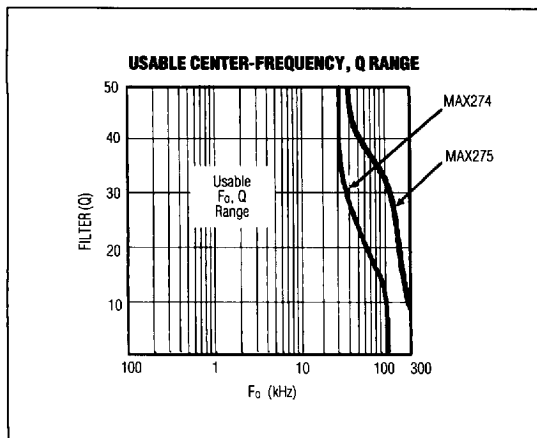

Figure 4. Usable F_o , Q Range. See *Translating F_o/Q Pairs into Hardware (Resistor Selection)*.
1. Check all F_o/Q pairs for realizability. The MAX274/MAX275 have limits on which F_o/Q values can be implemented. These limits are bound by finite amplifier gain-bandwidth and amplifier load drive capability (which limit the highest frequency F_o /highest Q s) as well as amplifier noise pickup and susceptibility to errors caused by stray capacitance (which sets a low-frequency limit on the poles). Refer to Figure 4 to be sure each F_o/Q pair is within the "realizable" portion of the graph. If filter Q s are too high, reduce them by increasing the filter order (that is, increase the number of poles in the overall filter).
High-frequency F_o s (up to 400kHz) and high Q s outside of Figure 4's limits are also realizable, but F_o and Q will deviate significantly from the ideal. Adjust resistor values by prototyping.